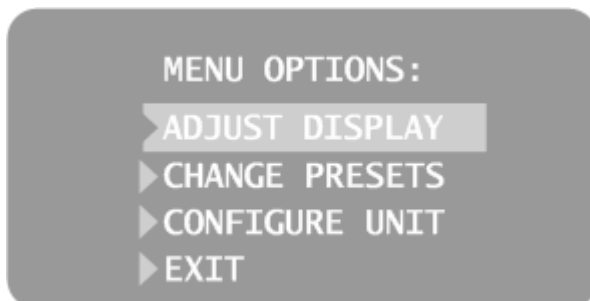
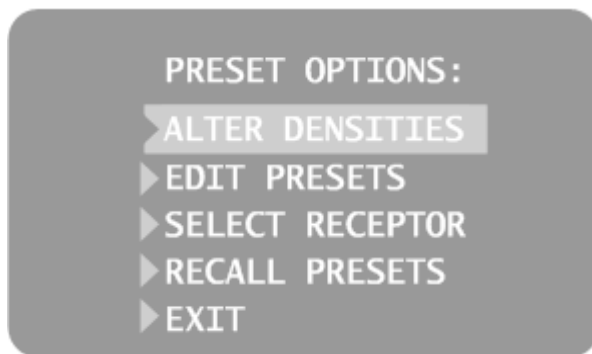
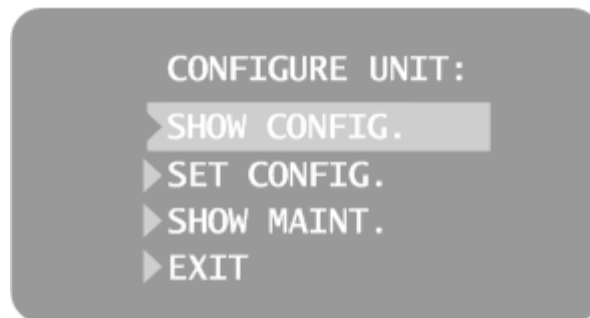

Figure 49
Figure 51
Figure 52
1. To enter system configuration mode, press the Tooth Selection and Patient Size Selection buttons on the Operator Panel simultaneously for 5 seconds. The display shows the Main System Configuration menu, as shown in *Figure 49*, and the Ready Indicator blinks.
1. From the Main System Configuration menu, *Figure 49*, select ADJUST DISPLAY. The Display Options menu shown in *Figure 50* will be displayed.
1. From the Main System Configuration menu, *Figure 49*, select CHANGE PRESETS. The the Preset Options menu shown in *Figure 51* will be displayed.
1. From the Main System Configuration menu, Figure 49, select CONFIGURE UNIT. The Configuration menu shown in *Figure 52* will be displayed.
Selecting SET CONFIG from the Configuration menu, *Figure 52*, displays the Set Configuration menu, *Figure 53*, with options to change the cone size. The Preva Dental X-ray System is preset for use with the standard supplied 8" [20 cm] Cone. The 12" [30 cm] Cone (30-A2033) is available. Using the longer Cone requires longer exposure times, which the Preva automatically selects when the Cone size is changed in the Set Configuration menu.
1. From the Main System Configuration menu, *Figure 49*, select CONFIGURE UNIT. The Configuration menu shown in *Figure 52* will be displayed.
4. Press the down arrow to highlight the DIAGNOSTIC MODE ON option, and press Enter. The Configure Unit menu, *Figure 52* will be displayed.
2. Press the down arrow to highlight the CONFIGURE UNIT option, and press Enter. This displays the Configure Unit menu, *Figure 52*.